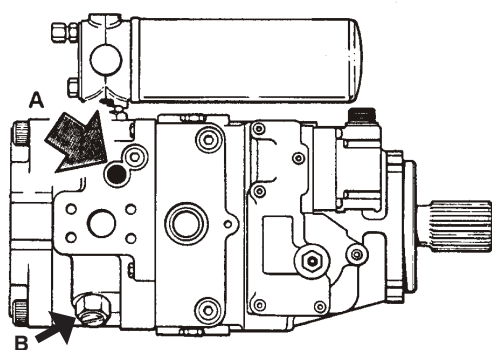

Figure 5-26. Gauge Port
3. Remove the 1/4" JIC cap on gauge port (A) (see Figure 5-26).
4. Connect a 600 psi gauge onto port (A).
8. Adjust the Charge Pressure Relief Valve marked "B" (see Figure 5-26) following "RELIEF VALVE ADJUSTMENT" on page 5-19.